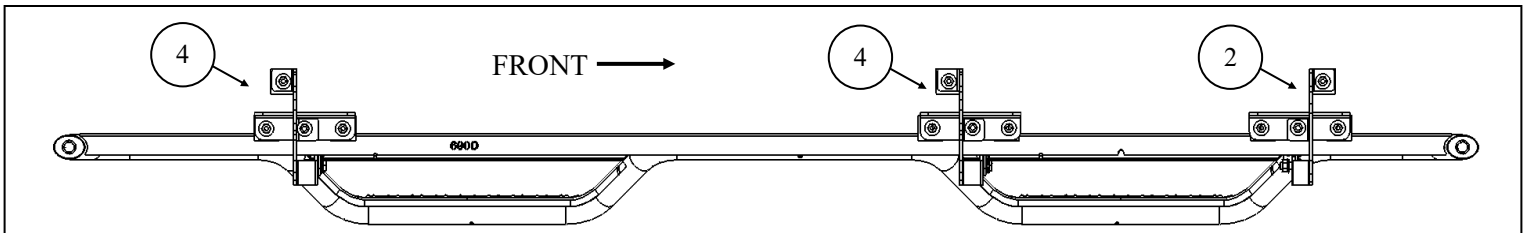

Figure 5
- Repeat **Steps 3 & 4** for every mounting location. **Note:** *See Figures 5 & 6 for the correct bracket orientation.*